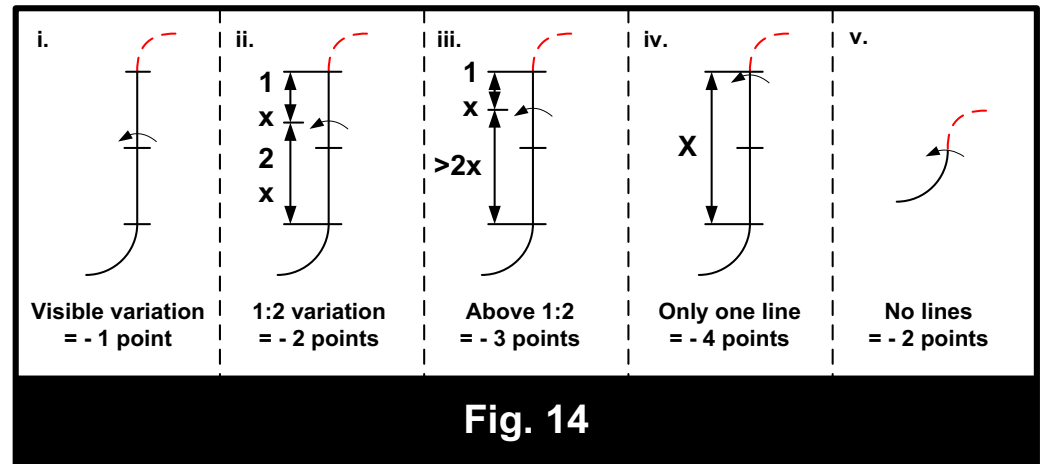

Fig. 14
If two or more lines within a figure must be of equal lengths, deductions are recorded via the following scale (Fig. 14):
\*\*\* Always refer to Figure 14 / 14a\*\*\*
- If present, rolls must be centered: -1 to -4 pts (Fig 14).